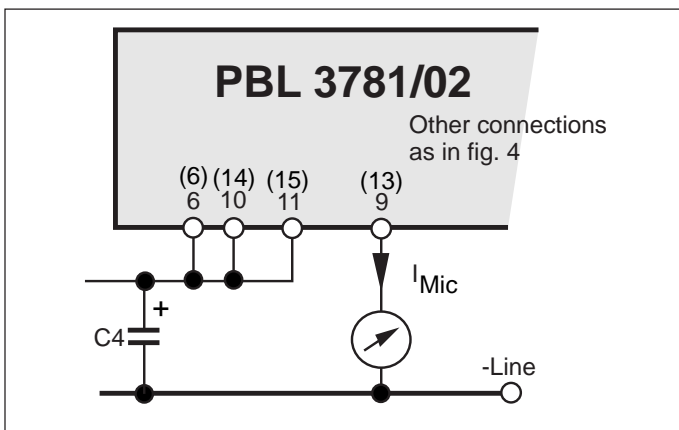
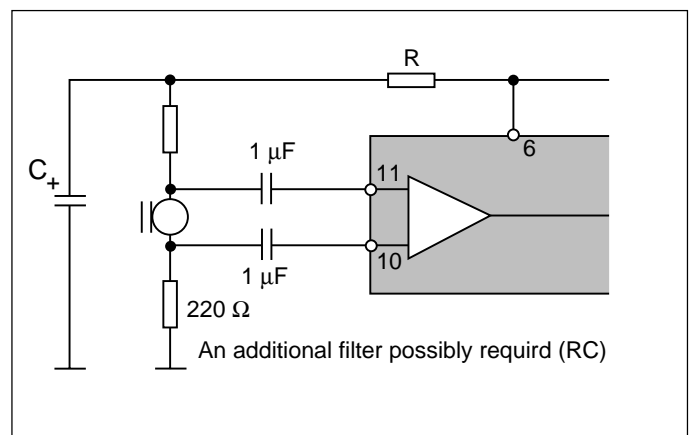

Figure 5. Microphone amplifier used as a DC-current supply.
Figure 11. Balanced electret microphone connection.
A microphone amplifier with a differential input stage, hence with a good common mode rejection, is provided for low-sensitivity magnetic or dynamic microphones. Connection of a standard electret microphone is shown in fig. 11, 14 and 15. The microphone amplifier can be used as a constant current source (300  $\mu$ A) by connecting both inputs to circuit + (pin 6) figure 5.
A constant current generator at pin 9(13), which is switched off when the circuit is muted, is available if pins 10(14) and 11(15) are connected to pin 6. Another method of interfacing an electret microphone is shown in figure 11 and 14.